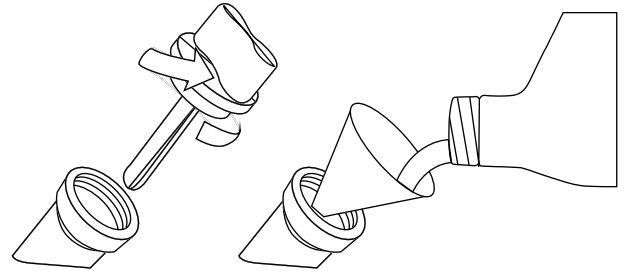

Figure 3: Oil Funnel
3. Using the supplied funnel and oil, pour the entire bottle of oil into the engine (see Figure 3).